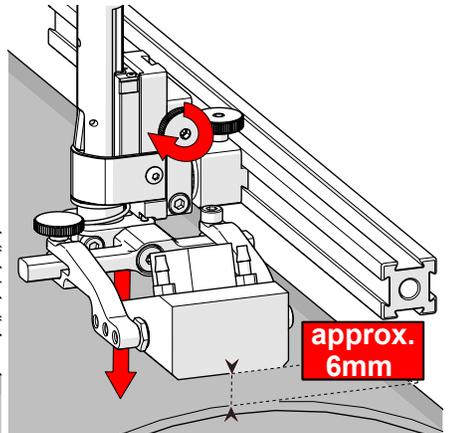

Fig. 50 - Lower toward scan surface
3. Tighten the vertical adjustment knob (Fig. 50).